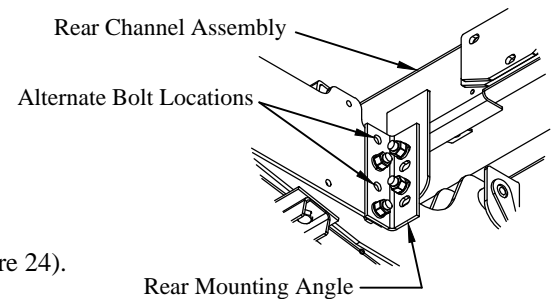

Figure 23: Liftgate adjustment.
7. **Adjust** the rear of the liftgate to the highest position possible using the alternate holes in the brackets (Figure 23).